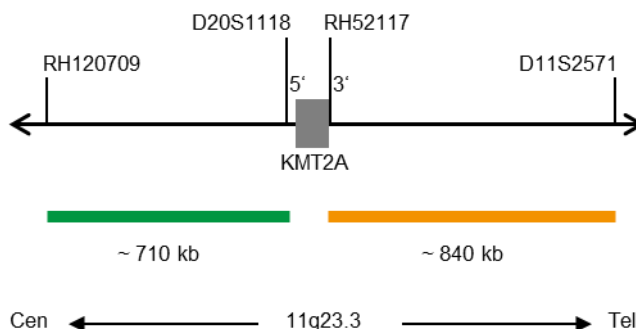

Fig. 1: SPEC KMT2A Probe map (not to scale)
- ZyGreen (excitation 503 nm/emission 528 nm) labeled polynucleotides (~10.0 ng/μl), which target sequences mapping in 11q23.3\* (chr11:117,574,074-118,284,029) proximal to the KMT2A breakpoint region (see Fig. 1).
- ZyOrange (excitation 547 nm/emission 572 nm) labeled polynucleotides (~4.5 ng/μl), which target sequences mapping in 11q23.3\* (chr11:118,399,293-119,237,675) distal to the KMT2A breakpoint region (see Fig. 1).